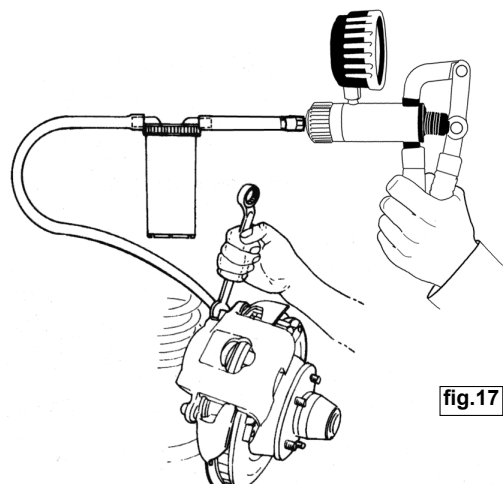

fig.17
5. Open the bleed nipple about a quarter of a turn (fig.17). Allow brake fluid to be drawn until no air bubbles are visible in the brake fluid in the clear hose.